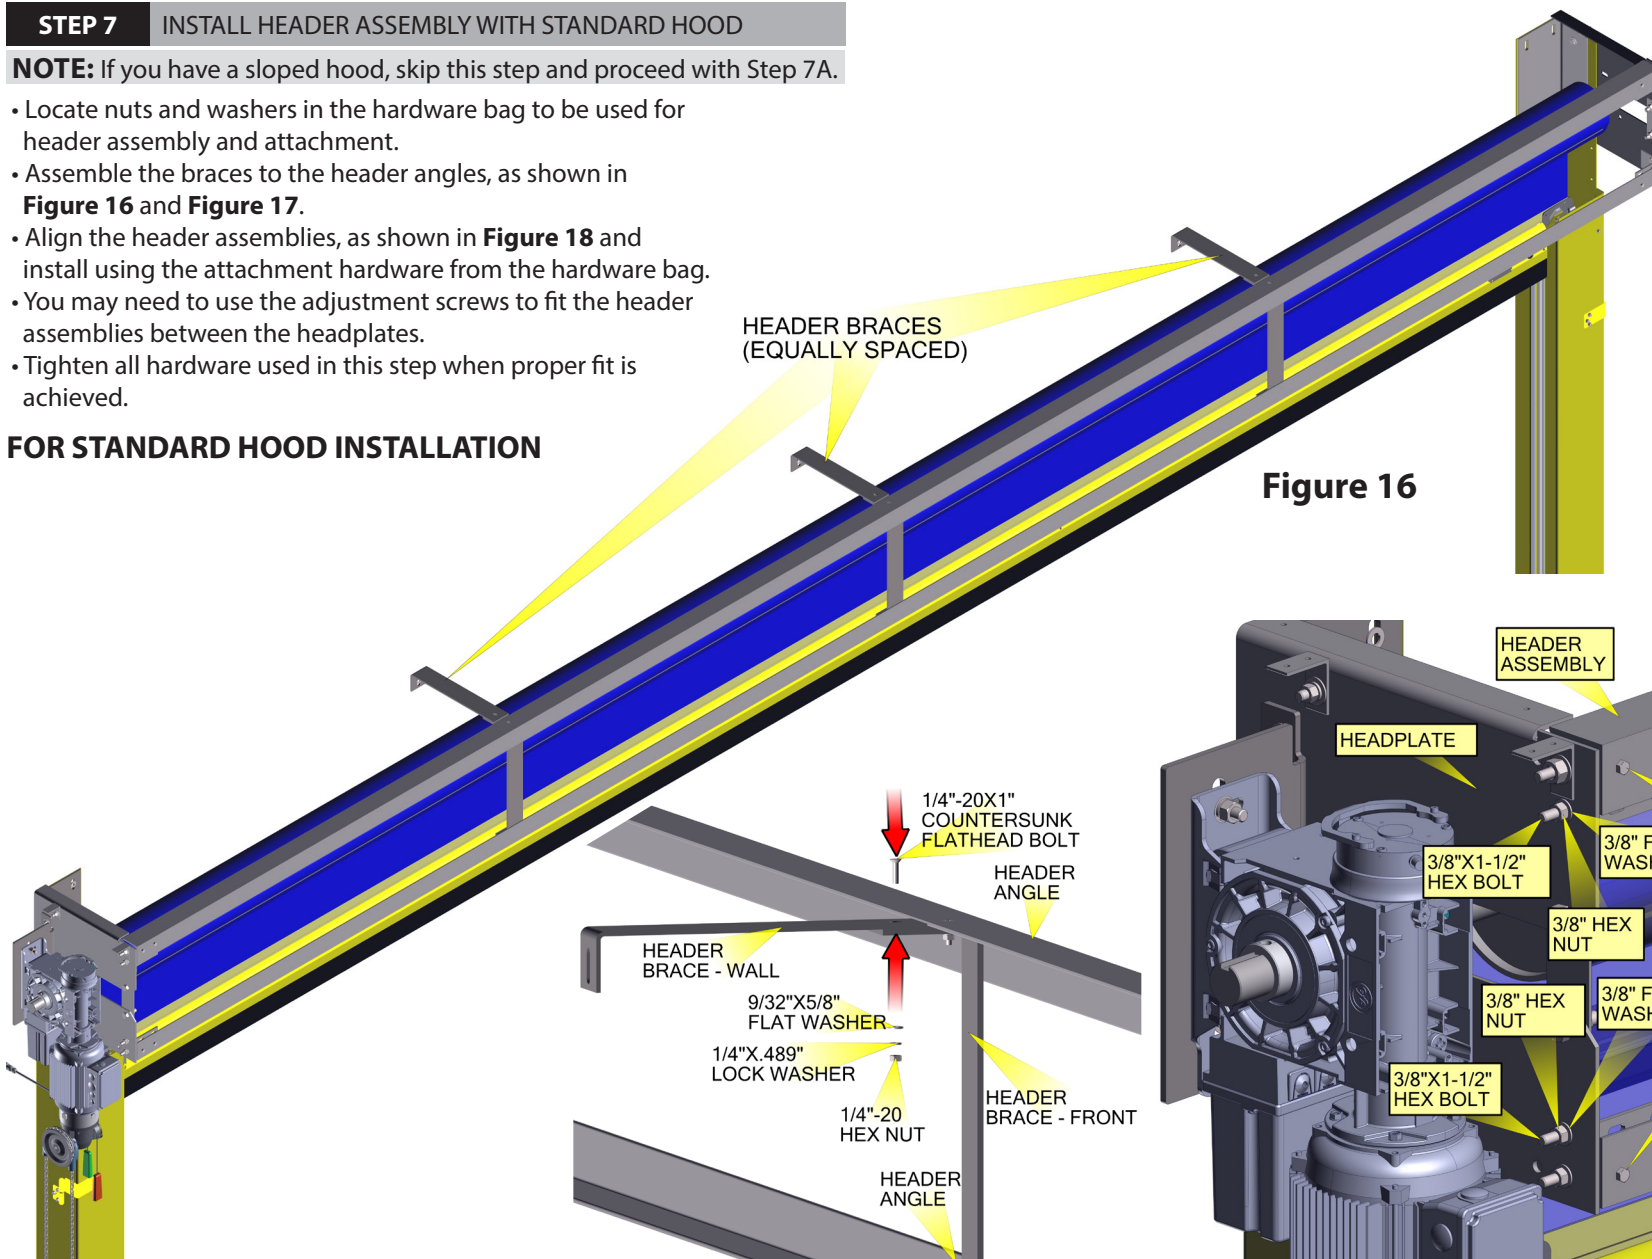
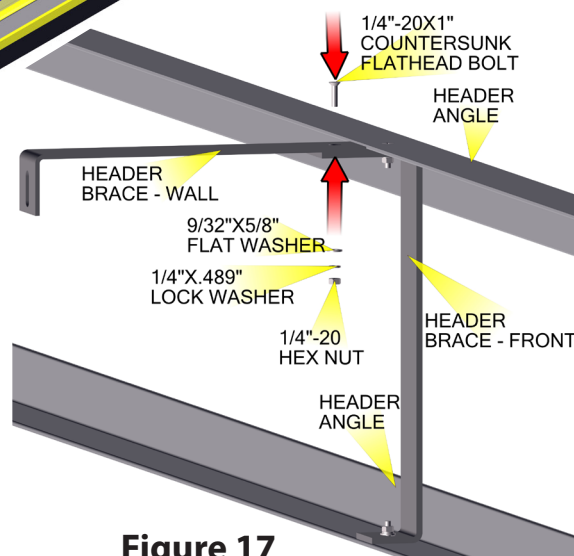

Figure 16
Figure 17
- Assemble the braces to the header angles, as shown in **Figure 16** and **Figure 17**.